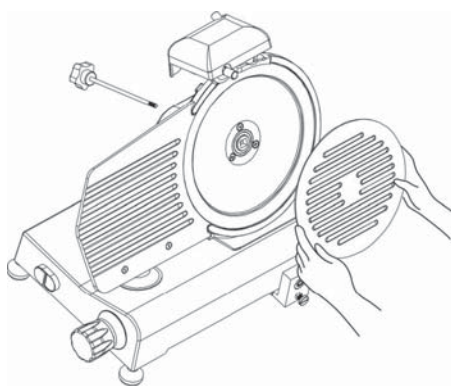

Fig. 6 - Blade guard removal
Unscrew of the knob of the tie screw (1) (see Fig. 6) to release the blade guard (2).
**WARNING: The blade cleaning must be carried out with a wet cloth with metal gloves (3) on.**